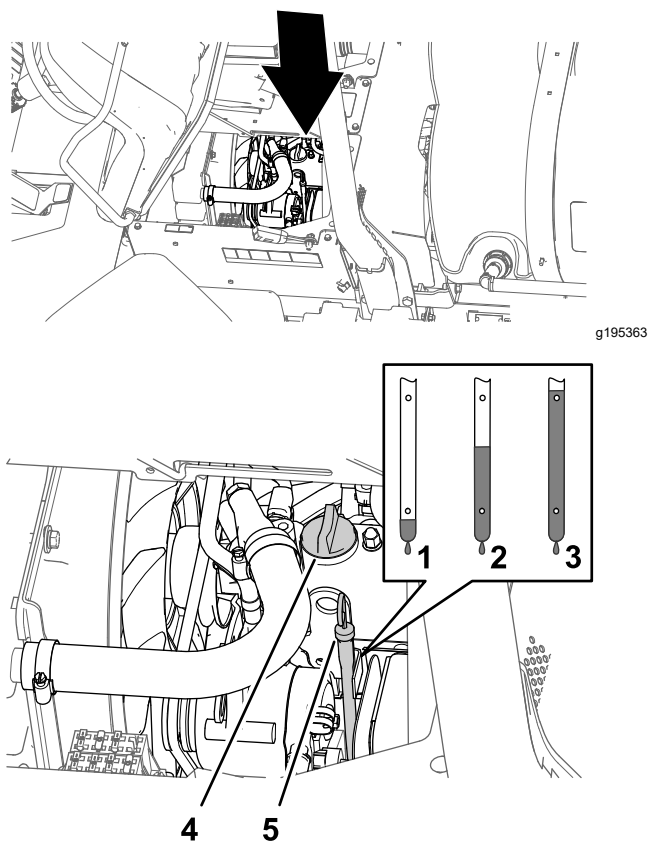

Figure 110
2. Remove the dipstick, located under the passenger seat, and wipe it with a clean rag (Figure 110).
3. If the oil level is low, remove the filler cap from the valve cover (Figure 110) and pour oil into the filler neck until the oil level is up to the Full mark on the dipstick.
4. Install the oil-filler cap (Figure 110).
5. Install the dipstick firmly in place (Figure 110).